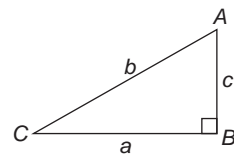

Figure M6
52. In the right-angled triangle ABC shown in Fig. M6, sine A is given by:
53. In the right-angled triangle ABC shown in Fig. M6, cosine C is given by:
54. In the right-angled triangle shown in Fig. M6, tangent A is given by: